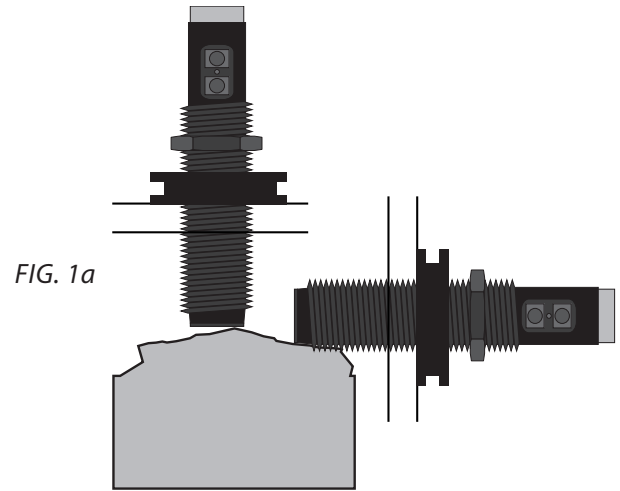

FIG. 1a
*Note: The sensor can be installed vertically or horizontally as shown in [FIG 1a]. Its position will determine when the fill alarm is triggered.*